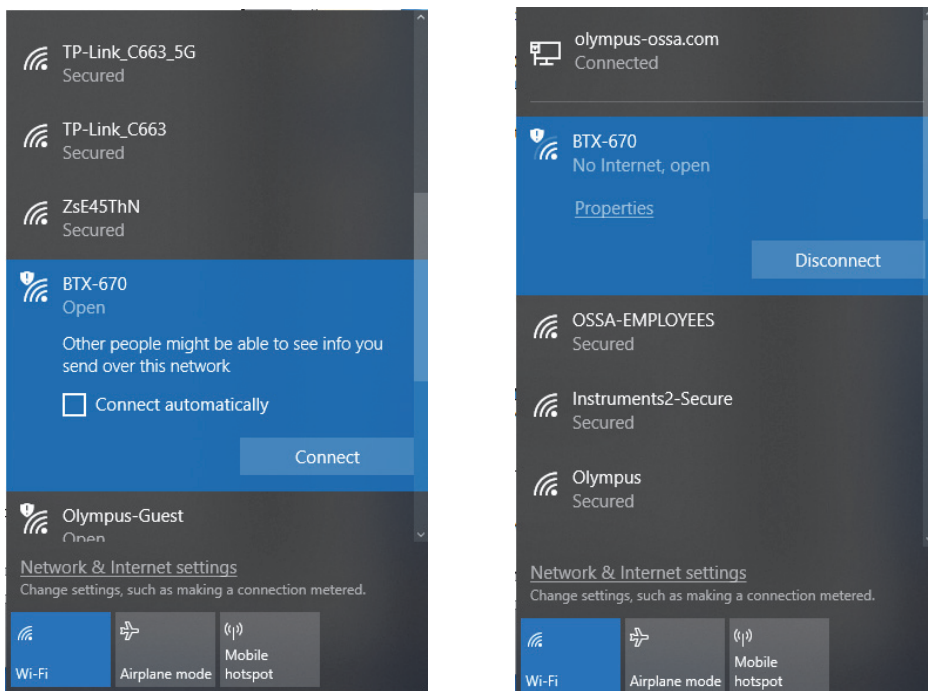

Figure 4-8 BTX III network selected (left) and connected (right)
2. Connect your PC to the BTX III (see Figure 4-8 on page 63).